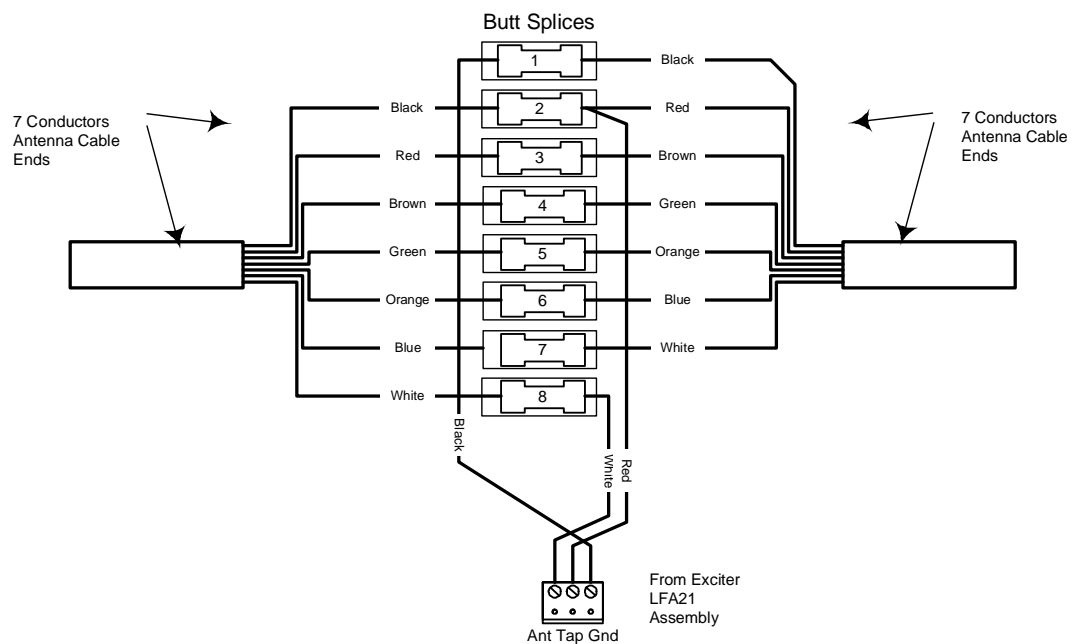

Figure 3-1: LF Antenna Connections
3. Use a crimping tool to connect cable conductors in the butt splices as shown in Figure 3-1.